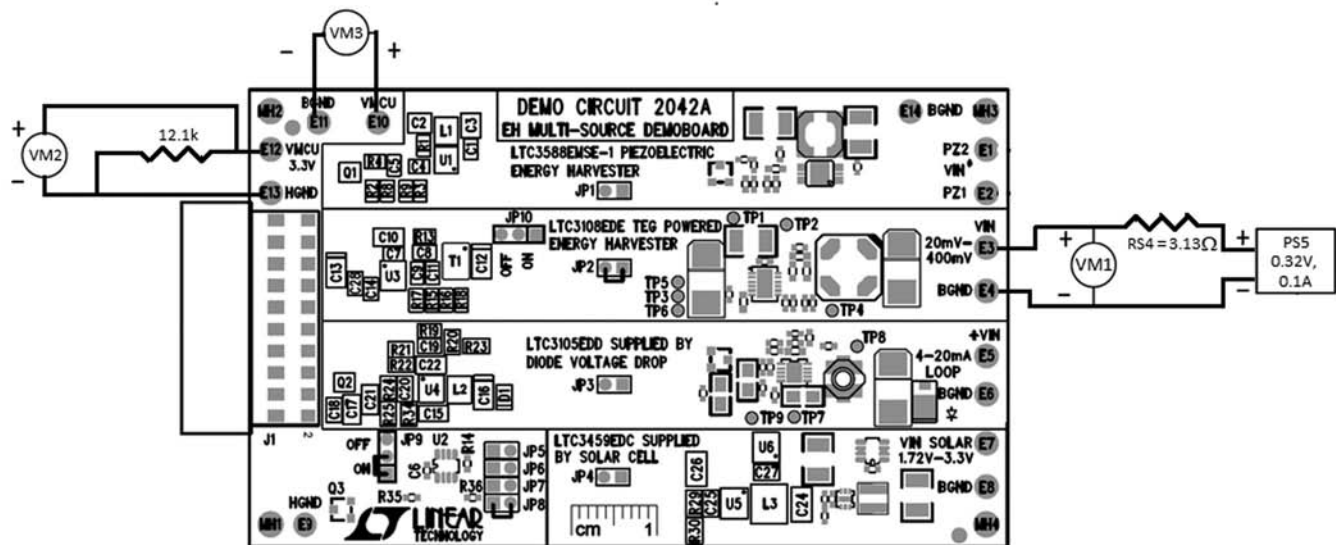

Figure 6. TEG-Powered Circuitry Test Setup (Test Steps 18 to 22)
18. **MOVE JP3 to JP2.** Disconnect PS4 from the board and set PS5 equal to 0.32V. Reconfigure the test equipment as shown in Figure 6.